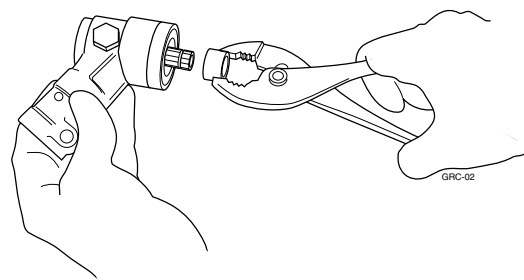

Figure 11.2 Removing the shaft collar.
**STEP 1.** Remove the cutting attachment and blade holders. Use slip-joint pliers to withdraw the shaft collar (Figure 11.2).